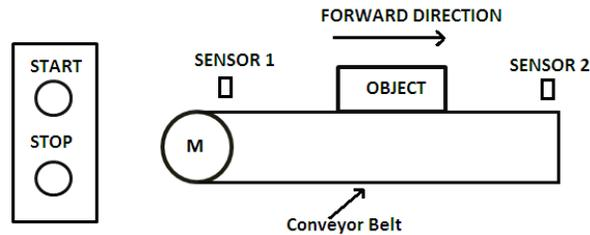

Figure 1
(b) Design Instruction List (IL) program to oscillate the object on the conveyor belt (shown in figure 1) between sensor 1 and sensor 2 irrespective of object position. The conveyor motor (M) is 12 V DC motor. Initially when START pushbutton is pressed object should move **07**